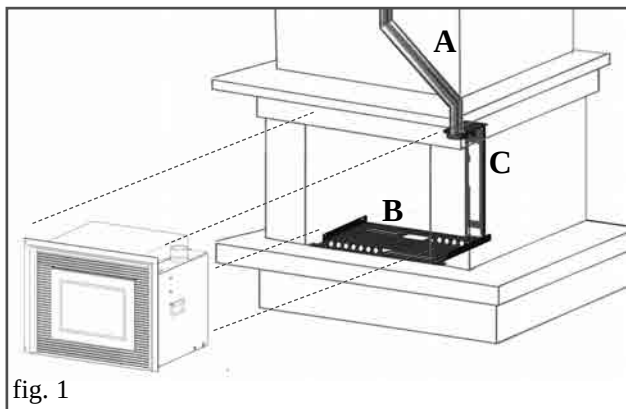

fig. 1
EASY INSTALLATION KIT FOR A FIREPLACE WITH AN ALREADY INSTALLED COVERING (consisting of plate "B" and bracket "C" - fig. 1)
- loosen the 2 screws (V) on the internal frame corresponding to the slots
2) Adjustment to be performed when the external door is not "horizontally" aligned with the internal frame (Fig. 1)
- Loosen the 4 screws (S) equipped with M5 nuts on the internal frame and adjust the external door's alignment with the frame itself. When properly aligned, tighten the M5 nuts.